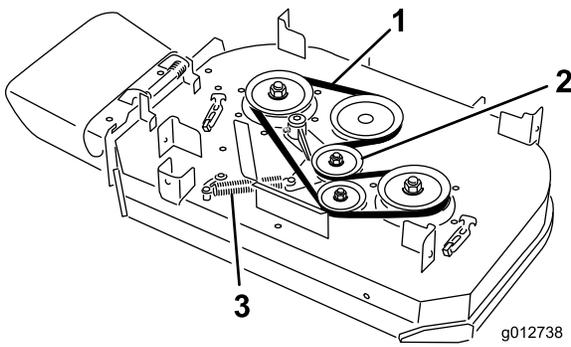

Figure 64
4. Remove the spring from the anchor post on the idler-pulley arm (Figure 64).
5. Remove the worn mower belt (Figure 64).
6. Install the new mower belt around the clutch pulley, the deck pulleys, and the idler pulley (Figure 64).
7. Install the spring onto the anchor post on the idler-pulley arm (Figure 64).
6. Install the new mower belt around the deck pulleys and idler pulley (Figure 64).
5. Remove the spring from the anchor post on the idler-pulley arm (Figure 64).
6. Remove the worn mower belt (Figure 64).
7. Install the new mower belt around the deck pulleys, the clutch pulley, and the idler pulley (Figure 64).
8. Install the spring onto the anchor post (Figure 64).